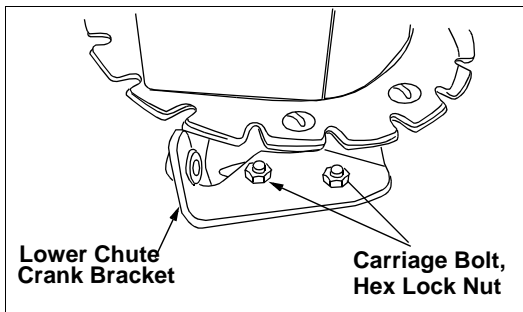

Figure 6
- You may have to loosen the carriage bolts and hex lock nuts which secure the lower chute crank bracket to the extension on the left side of the chute assembly. See Figure 6.